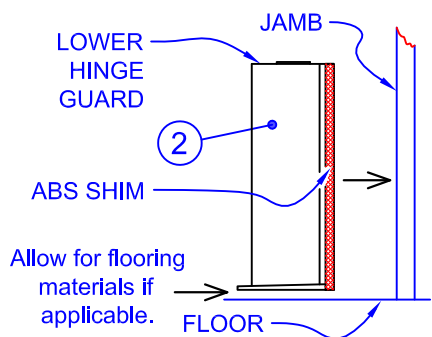
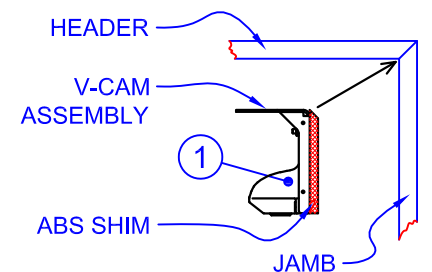
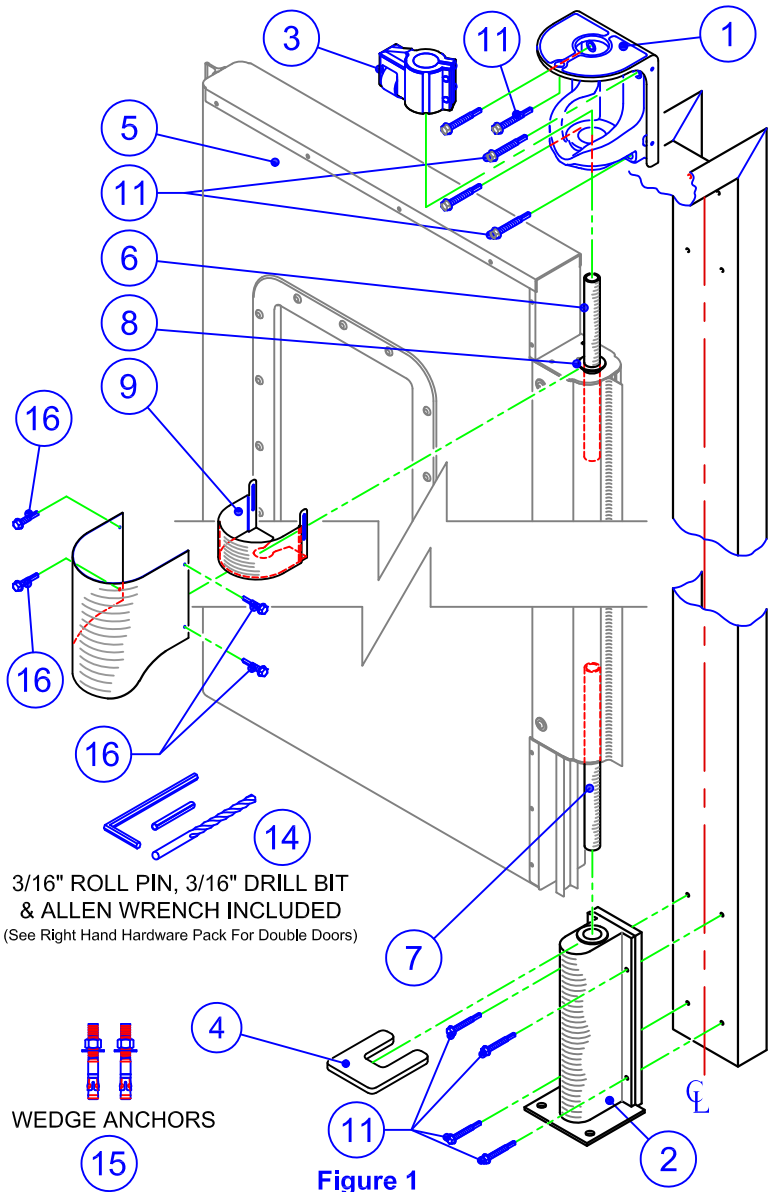

Figure 2
Figure 3
Figure 1
Place the Lower Hinge Guard (2) into the lower corner of Jamb/Floor, see Figure 2. Center the Lower Hinge Guard with the Jamb as shown in Figure 1, and mark holes on Jamb with a pencil or center punch. Place the V-Cam Assembly (1) in the upper corner of Jamb/Header as shown in Figure 3. Center the V-Cam Assembly with the Jamb/Header and mark holes with pencil or center punch. Drill the marked holes on Jamb and Header with appropriate size drill bit, see "Drill Bit Sizes" at left.
Remove the Roller Assembly (3) from the Upper Hinge Post (6), **DO NOT REMOVE THE BUSHING (8)**. Place the V-Cam Assembly (1) over the Upper Hinge Post (6). Slide the Roller Assembly (3) onto the Upper Hinge Post above the inside flat of the V-Cam oriented with the bearing wheel facing down (see Figures 1 & 4). **NOTE: Do Not Tighten Cap Screws on the Roller Assembly at This Time.**
Lift the door panel up and slide the Lower Hinge Guard (7) into the top hole of the Lower Hinge Guard (2), see Figure 1. Place the 1/2" thick ABS Shim between the Lower Hinge Guard and the Jamb. Slide door assembly into the jamb and line up with the pilot holes drilled in Step 3. It may be necessary to slide the V-Cam and Roller Assemblies down on the hinge post to fit the entire panel assembly into the jamb. Once inside the jamb you can lift the V-Cam and Roller Assemblies to the upper corner as indicated by the Arrow in Figures 3 & 4. Place the 1/2" Thick ABS Shim between the V-Cam Assembly and the Jamb. Insert the four 2" Tek Screws (11) into the bottom and top jamb side of the V-Cam Assembly (1) and tighten securely. Insert four 2" Tek Screws (11) into the Lower Hinge Guard (2) mounting holes and tighten securely. Insert a 2" Tek Screw (11) into the top hole of the V-Cam Assembly (1) at the header (Optional) and tighten securely.
Lift the door panel and place the Door Adjusting Shim (4) between the Lower Hinge Guard (2) and the lower hinge cutout on the door panel, see Figure 1. **IMPORTANT: Do Not Allow Door Adjuster Shim To Rest On The Bushing!** Set the Roller Bearing to the Lowest point on the V-Cam (closed position), see Figure 5. Line up the centerline of the panel (5) with the centerline of the header and tighten the TOP Cap Screw on the Roller Assembly (3) securely, see Figure 6. Lift door high enough to gain access to the Lower Cap Screw on the Roller Assembly (3), see Figure 6. Tighten the Lower Cap Screw securely. Remove "Adjuster Shim".
Locate the Hinge Seal Wrap (10). Hold the Hinge Seal Wrap (10) with the straight edge toward the header as shown in Figures 1 & 7. Place one side of the Hinge Seal Wrap at the back edge of the V-Cam Assembly (1) and line up the mounting holes in the Hinge Seal Wrap with the two mounting holes on the back of the V-Cam Assembly. Insert two of the #10 x 1/2" TEK Screws (16) through the holes in the Hinge Seal Wrap and into the V-Cam Assembly. **DO NOT COMPLETELY TIGHTEN THE SCREWS AT THIS TIME!**